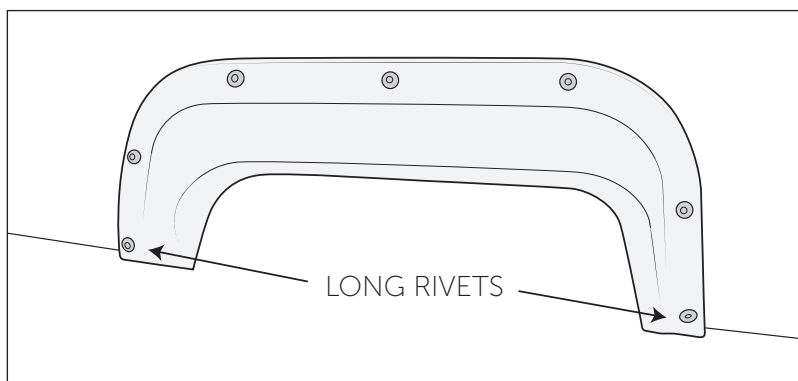

Figure 4
9. Install hood bezel using supplied 1/8" black rivets. The long rivets go in the front and rear bottom holes through multiple layers of hood, the shorter are used on the rest of the locations (fig. 4). Extra of both rivets are provided in case of any issues. Suggest installing all rivets loosely before popping them.